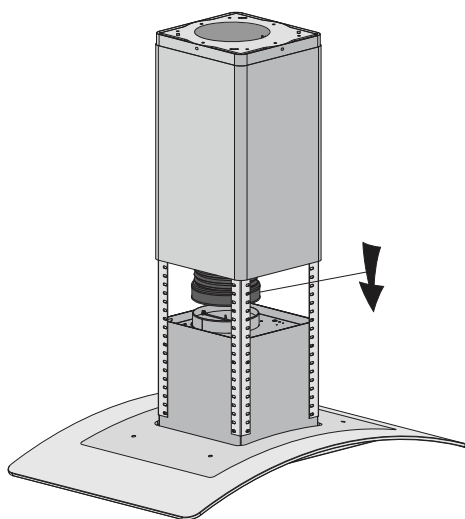

Figure 9
- Attach the ducting pipe on the outlet (see Figure 9).